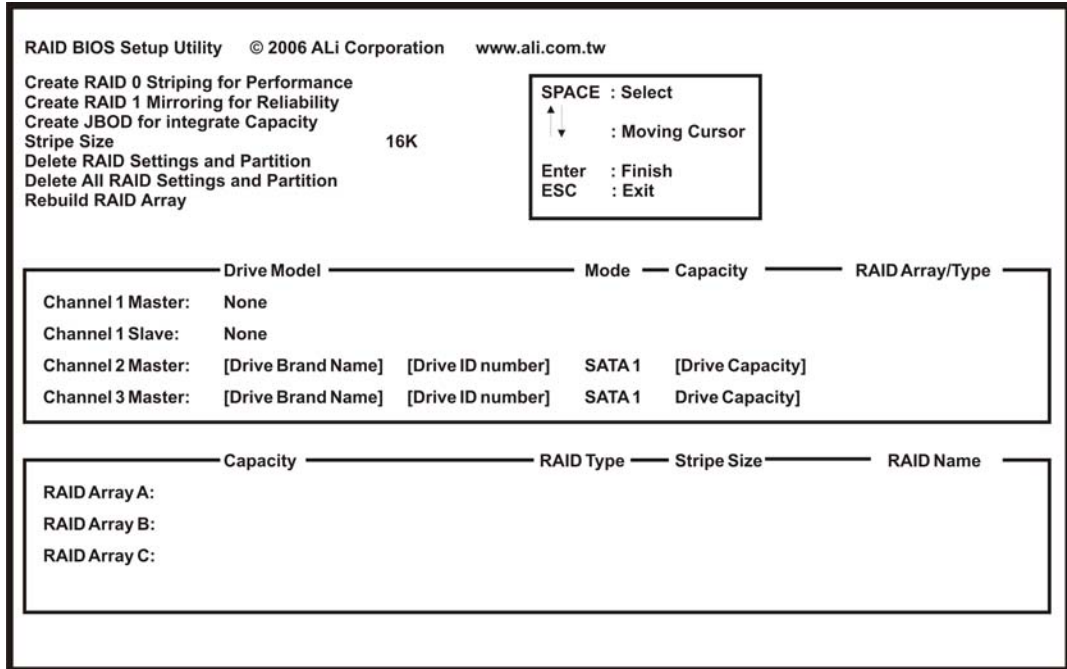

Figure 6-31: RAID BIOS Setup Utility
- Step 6: Delete RAID settings and partitions.** The **RAID BIOS Setup Utility** in **Figure 6-31** appears. Before configuring the array select the “**Delete All RAID Setting & Partition**”.
- Step 7:** Configure the RAID settings. Use the RAID BIOS Setup Utility in Figure 6-31 to configure the RAID array. Brief descriptions are given below.